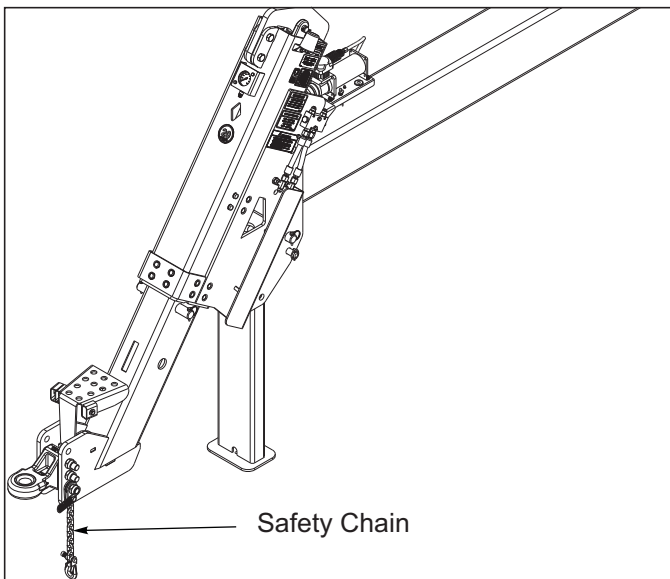

Figure 4-6: Safety Chain
7. Attach the safety chain *See Figure 4-6,* to the tractor manufacturer's recommended anchor. Allow enough slack for turning in both directions. The chain hook should latch securely to prevent it coming loose.
- b. Attach the safety chain to the tractor drawbar **See Figure 4-6** Provide only enough slack in the chain for turning. Do not use an intermediate chain support as the attaching point for the chain on the tractor. Refer to the tractor operator's manual for proper safety chain attachment. The chain hook should latch securely to prevent it from coming loose. Do not pull the implement by the safety chain.